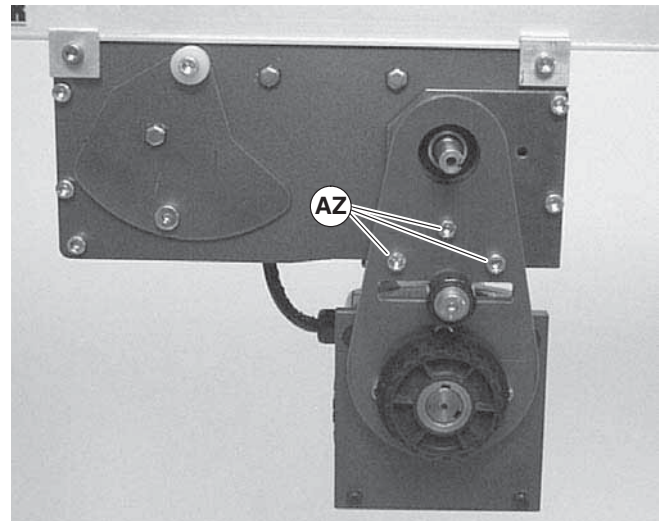

Figure 25
3. Remove three mounting screws (Figure 25, item AZ) and remove gearmotor.